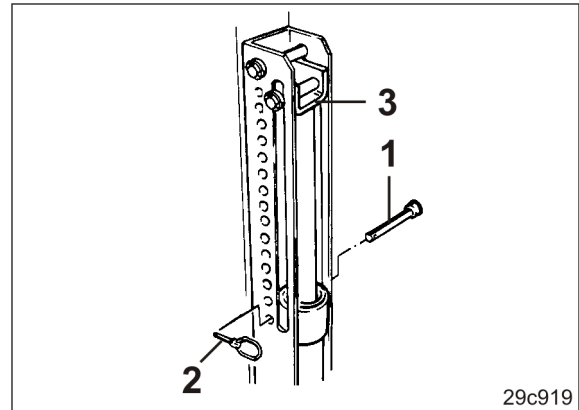

Fig. 180
3. Insert the pin (Fig. 180/1) below the stop (Fig. 180/3) into a hole in the group of holes and secure it with a linch pin (Fig. 180/2).